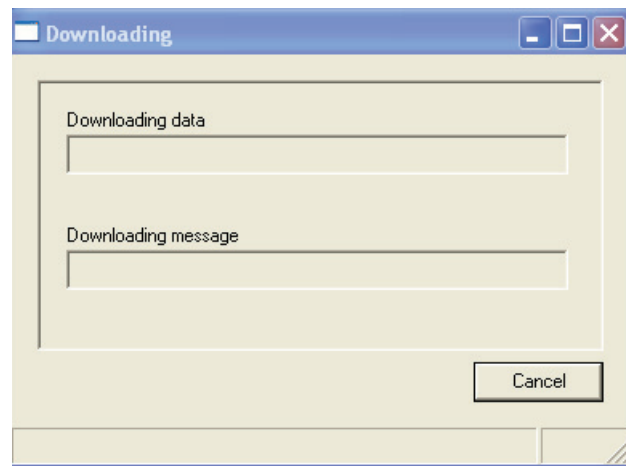

figure 8.20: Download configuration window
- If you click No, the software will start to download the schedule from the Plena Weekly Timer to the PC, and the Downloading window will appear (see figure 8.20). When downloading is complete, this window will close.